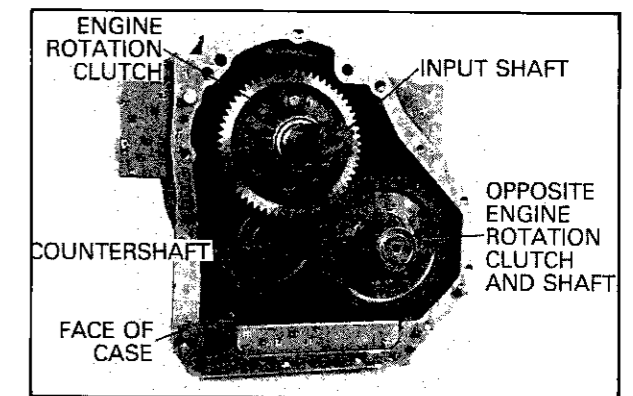

FIG. 44 FRONT OF TRANSMISSION
53. Apply a continuous  $\frac{1}{16}$  inch (1.6 mm) bead of Loctite Number 515 sealing compound to the face of the case (Fig. 44).